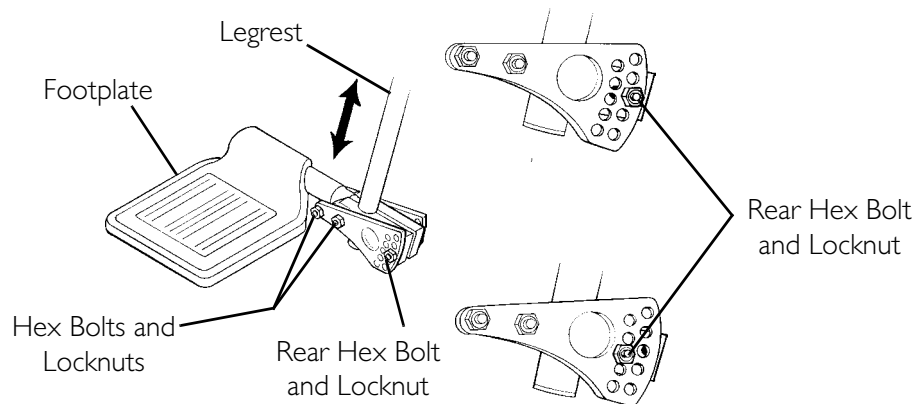

FIGURE 6.27 Adjusting Genius Legrests - Footplate Height/Footplate Angle
NOTE: For this procedure, refer to FIGURE 6.27.
1. Note the angle of the footplate in relation to the legrest as shown in FIGURE 6.27.